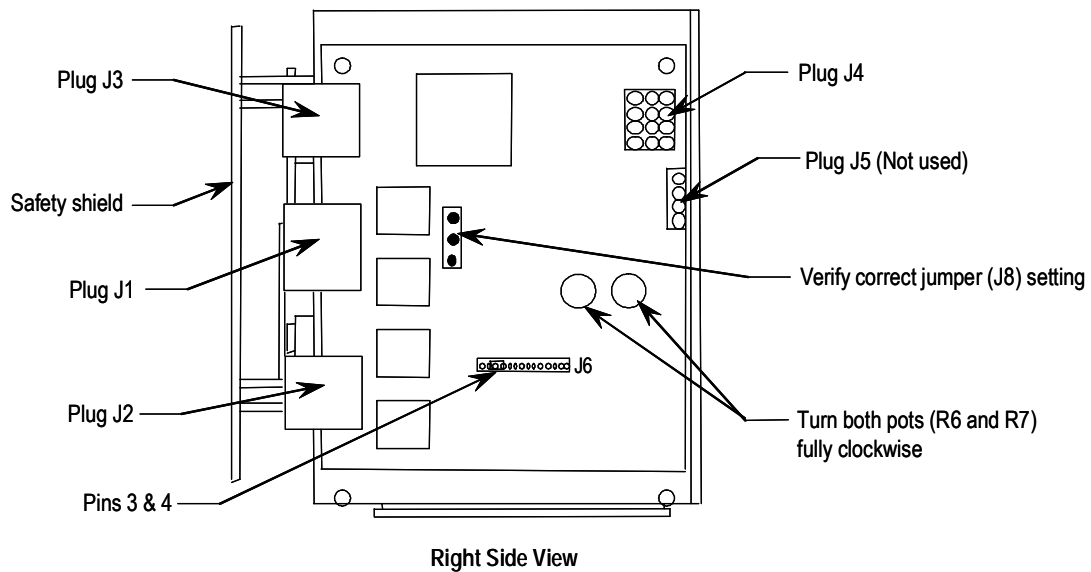

Figure 5.4 – Firing Board Replacement
- 5) Remove the plugs in J1, J2, J3, and J4 (see Figure 5.4).
- 10) Verify that pins 3 and 4 on J6, located on the card, are jumpered. (Refer to Figure 5.4)
- 4) Install a jumper across J4 Position 4 and J4 Position 6 on the FCR4100 Firing Board (refer to Figure 5.4). This defeats the operation of the protection package.
- (Refer to Figure 5.4)